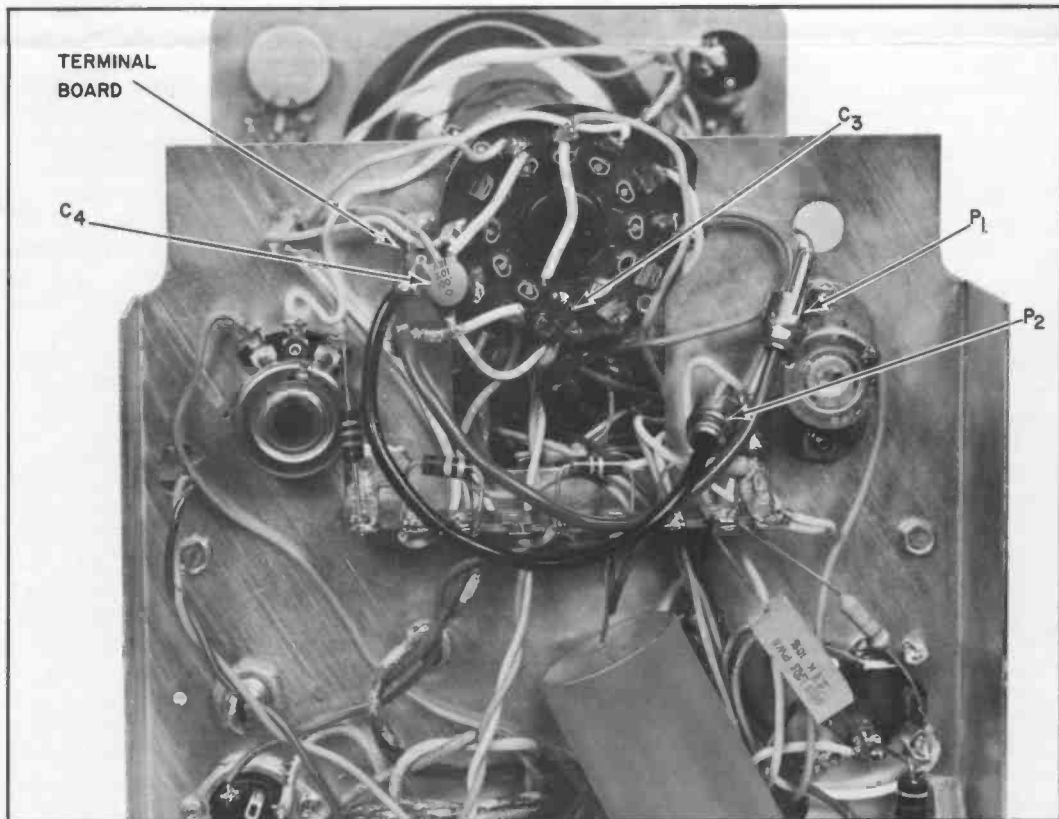

Figure 4: Rear section of chassis at CRT socket showing wiring and connections.
box and assemble the parts. During assembly, make certain that the adjusting screw at  $C_2$  lines up with the "Adj." hole (Figure 4).
4. Mount the terminal strip on the oscilloscope chassis to the left of the CRT, as shown in Figure 4. Connect the 270-picofarad and 0.001-microfarad capacitors on the terminal board to CRT socket pins 7 and 6. Then connect the two 5-inch leads to the terminal board.